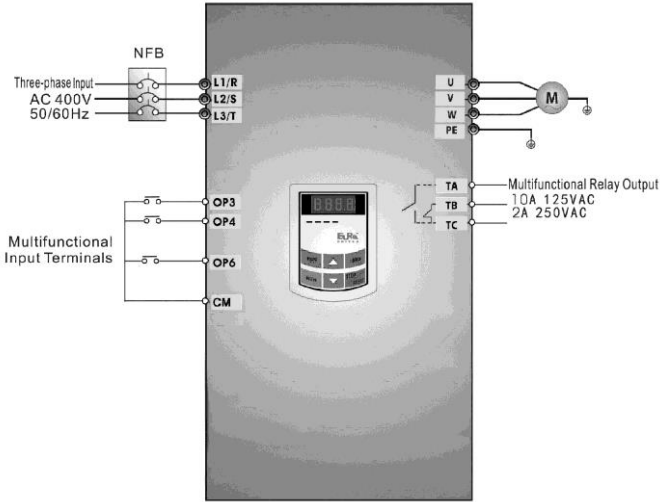

Figure 5-2 Wiring Diagram 2
- (1) Connect the wires in accordance with Figure 5-2. After having checked the wiring successfully, switch on the air switch, and power on the inverter;